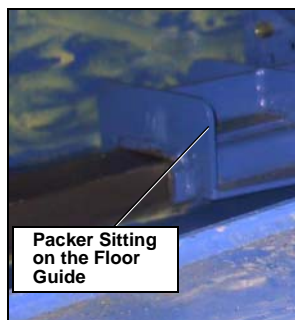

Figure 69. View from behind the packer when fully extended
14. Once the packer is positioned on the floor guides, center the packer (and the floor guides) in the hopper, making sure they are parallel to the hopper wall (see Figure 69. “View from behind the packer when fully extended”).